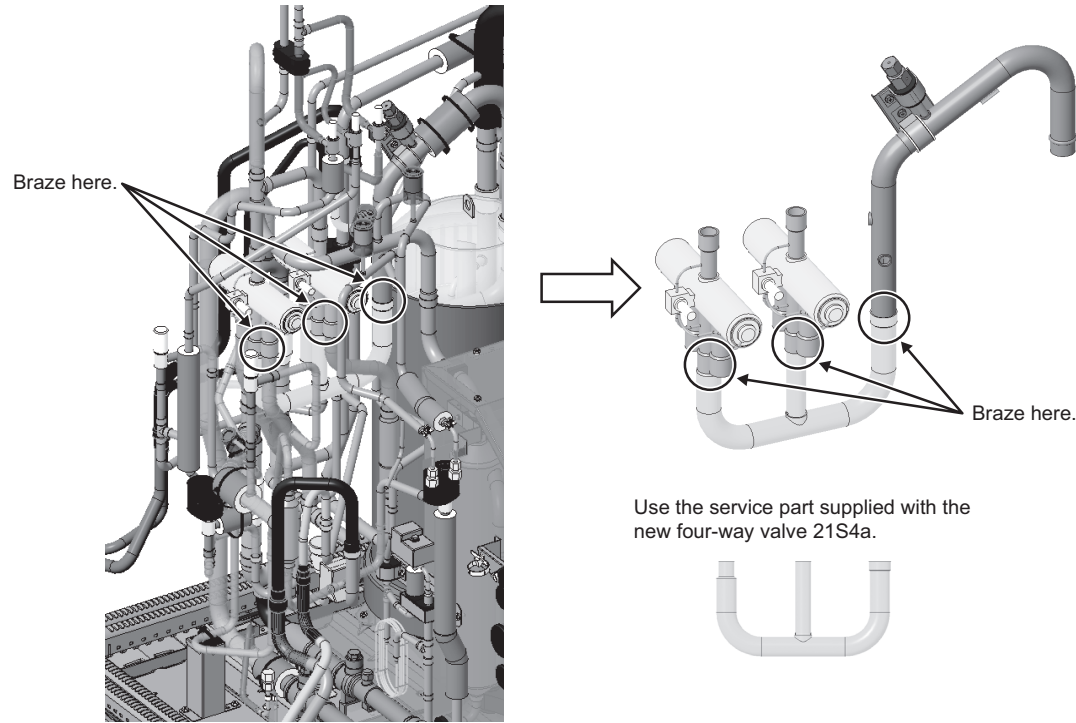

Fig. 10
- (10A) Braze the pipe to the bottom center port of the four-way valve 21S4a. (Three areas: Fig. 10)